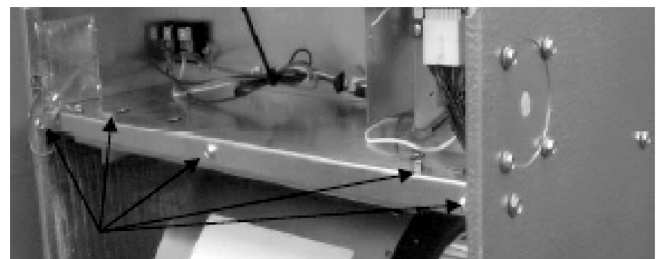

Figure 5: Blower/Motor Assembly Removal
4. Remove the three screws on the right side and the two screws on the left side of the blower mounting plate, then remove the angle bracket. Refer to Figure 5 below for screw locations